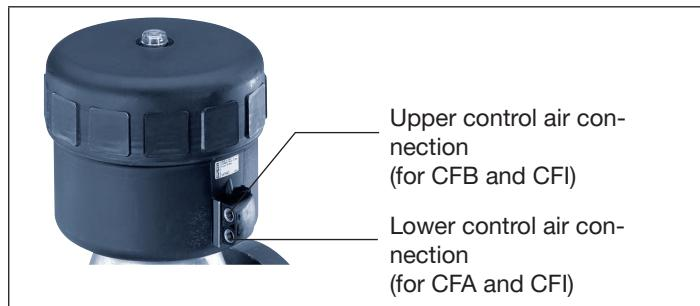

Fig. 17: Pneumatic connection
→ Pressurize lower pilot air port with compressed air (value as indicated on the type label) (see "Fig. 17").
- Pressurize lower pilot air port with compressed air (value as indicated on the type label) (see “Fig. 17”).
- Pressurize upper pilot air port with compressed air (value as indicated on the type label) (see “Fig. 17”).